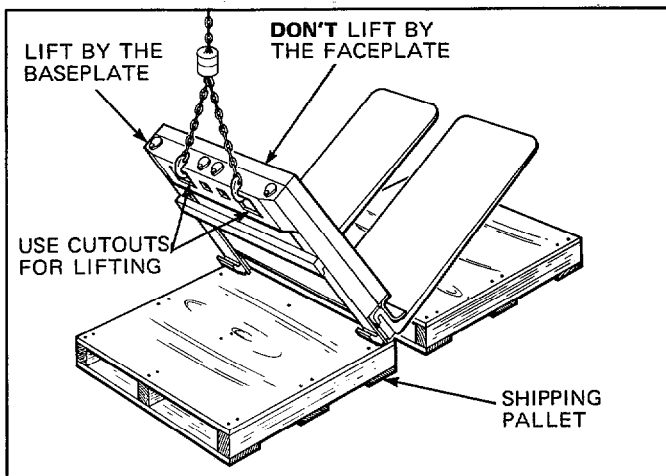

Figure 1. Lift the Attachment by the Baseplate
- Using a suitable hoist and chain, lift the attachment by the **baseplate** and set the attachment in an upright position on a pallet. See Figure 1.